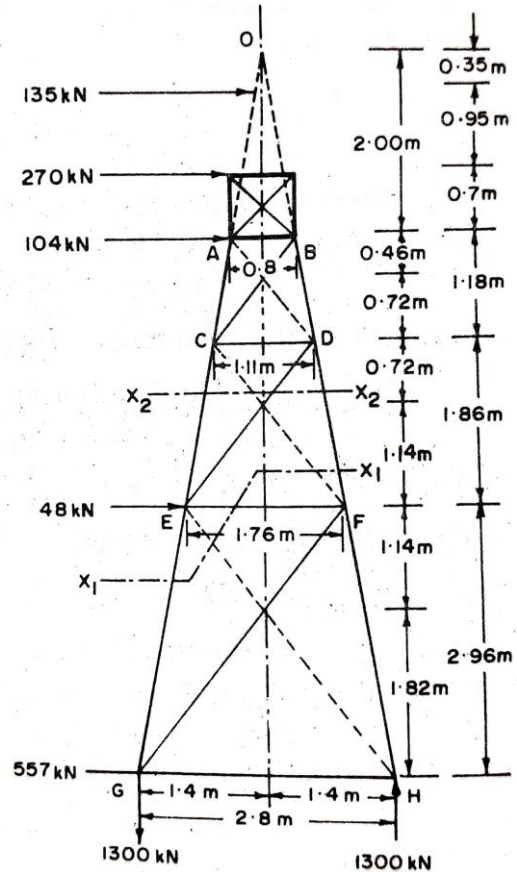

Figure2
10. Analyse the steel tower subjected to loads as shown in Figure 2 [12M]